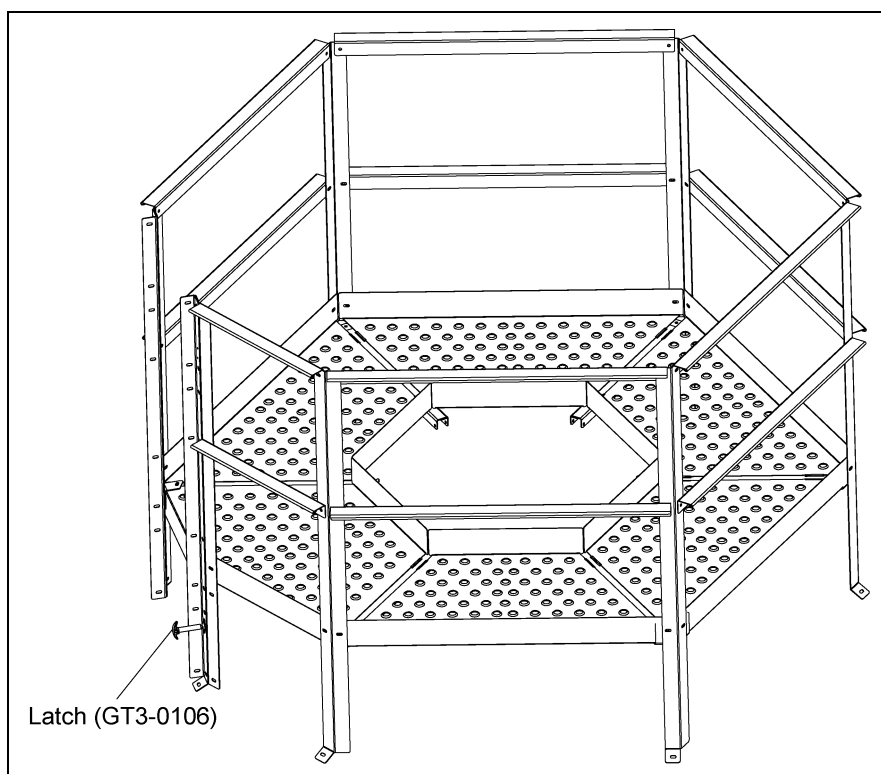

Figure 3L
11. Assemble latch (GT3-0106) as shown using screws (S-2009) and nuts (S-2010). (*See Figure 3L.*)